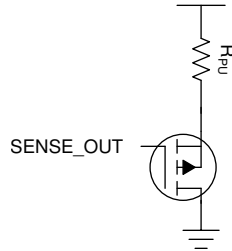

Figure 8-10. Additional Components for the SO and PG Pins to be Pulled Up to Another Rail
Because the sense out (SO) and power-good (PG) pins are pulled up internally to the output rail, they cannot be pulled up to any voltage or wire AND'd like a typical open-drain PG output can be. If these signals must be pulled up to another logic level then an external circuit can be implemented using a PMOS transistor and a pullup resistor. Implementing the circuit shown in Figure 8-10 allows the outputs to be pulled up to any logic rail. This implementation also allows the outputs to be AND'd together like the traditional power-good pins.